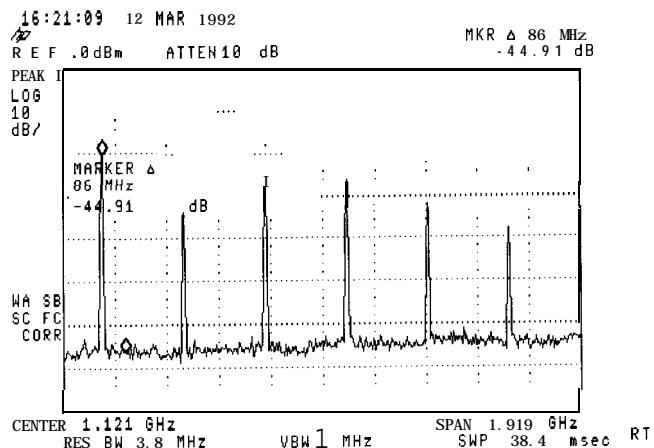

Figure 3-14. Using the Marker to Peak/Peak Function
5. The MARKER →PK-PK softkey can be used to find and display the frequency and amplitude difference between the highest- and lowest-amplitude signals. To use this automatic function, press **[MKR→]**, More 1 of 2 , **MARKER →PK-PK** . See Figure 3-14.